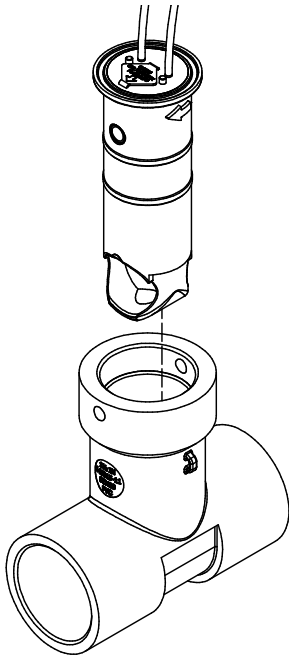

Figure 7
1. The Tee insert bore must be clean before installing the insert and the (2) black O-rings on the insert should be fully lubricated.
4. Push down on the insert flange and twist slightly to install. Then align the retaining pin holes in the insert with the holes in the Tee (see Figure 7).